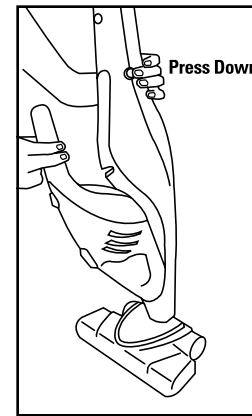

Fig. 5
1. Press two side HAND VAC RELEASE buttons and pull the hand vac from the main unit. (Fig. 5)